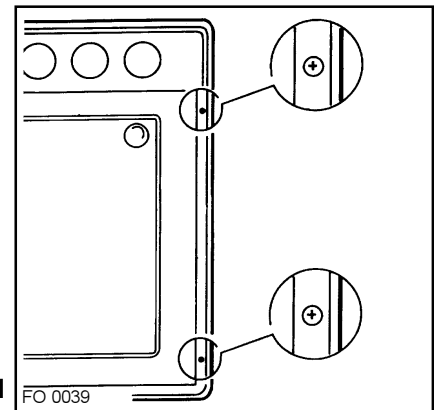

Fig. 11
- Open the oven door and secure the oven to the kitchen cabinet with four wood screws, which fit the holes provided in the oven frame (Fig.11).